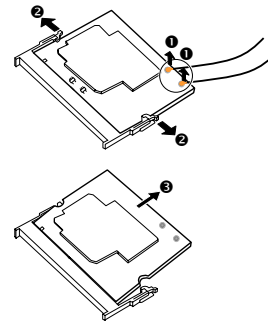

Figure 2-19 Remove the Wireless card
3. Disconnect the wireless card's antennae first (❶). Then pull the retaining clips outwards (❷) and remove the wireless card (❸). (Figure 2-19)